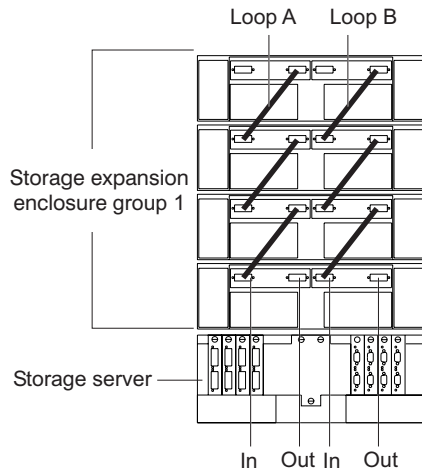

Figure 45. Connecting additional storage expansion enclosures to drive loops A and B
3. Connect additional storage expansion enclosures to drive loops A and B, as shown in Figure 45.